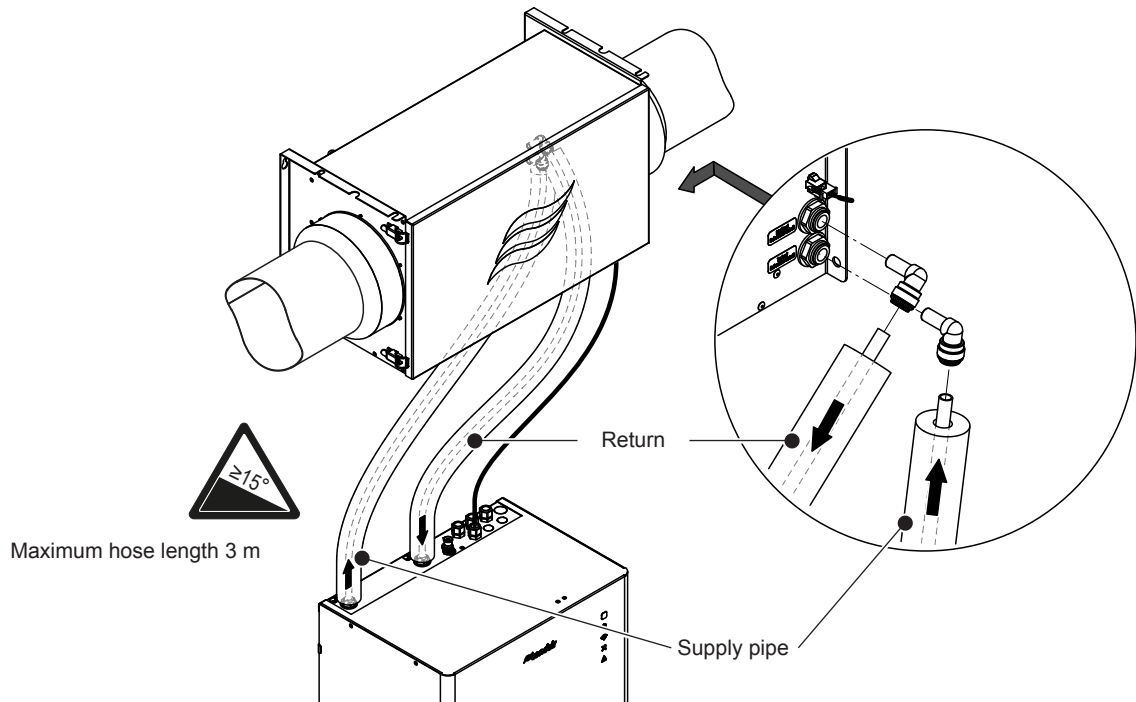

Fig. 17: Hose connections
3. Connect the supply and return hoses to the corresponding connections of the hydraulic unit and the humidifier unit according to Fig. 17. If necessary, use the enclosed angled connectors.